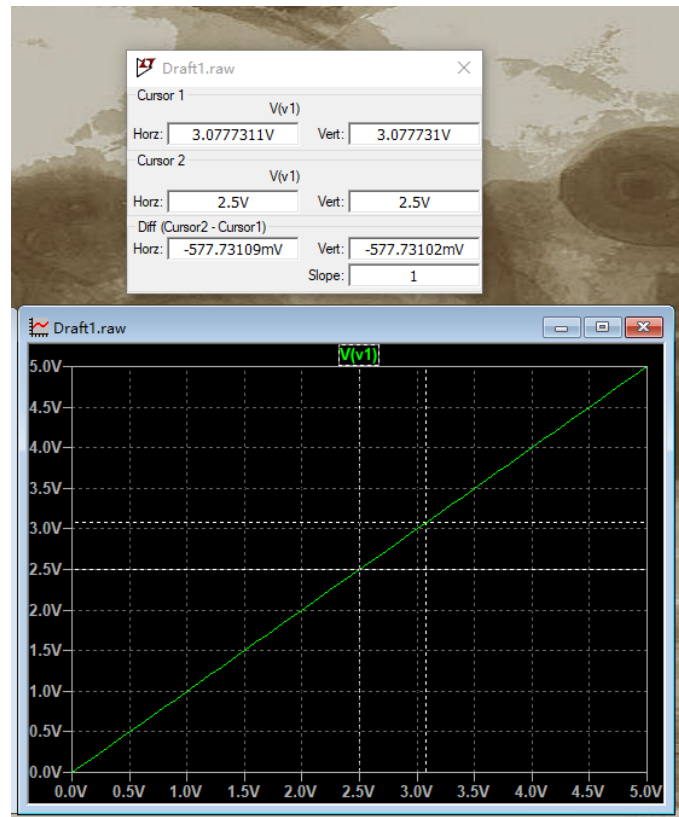

Figure 13: Curve example in a DC simulation.
- f) Use Cursor to read the specific value in the simulation figure. Add a cursor by left clicking on the trace name, above the plot. You can add two cursor measures (x_1, y_1) , (x_2, y_2) , and $(\Delta x, \Delta y)$. To move cursors, use left and right arrows, or click and drag. As show in Figure 13.